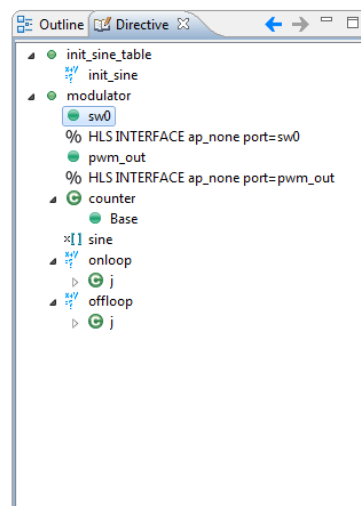

Figure 2.42: Directive tab with applied directives
4. Apply the same directive with the same settings to the **pwm_out** output port and the **Directive** tab with applied directives to selected ports looks as it is shown on the Figure 2.42.